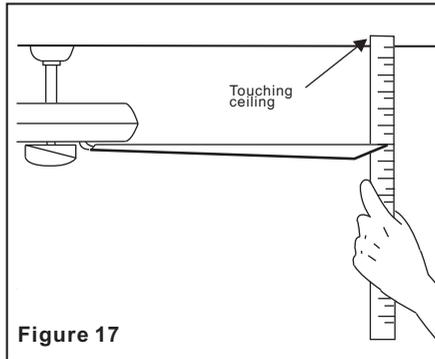

Figure 17
Step 2. Most fan wobble problems are caused when blade levels are unequal. Check this level by selecting a point on the ceiling above the tip of one of the blades. Measure this distance as shown in Figure 17. Rotate the fan until the next blade is positioned for measurement. Repeat for each blade. The distance should be equal within 1/8".